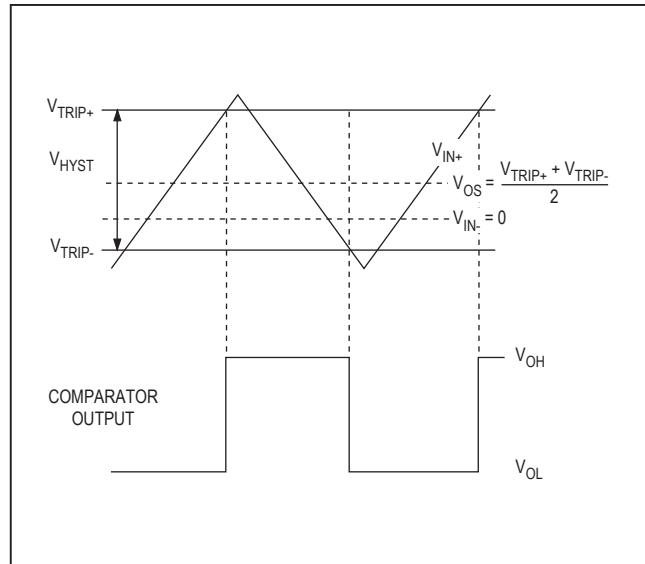

Figure 1. Input and Output Waveform, Noninverting Input Varied
**Note 4:**  $V_{OS}$  is defined as the center of the input-referred hysteresis zone. See Figure 1.
**Note 5:** The input-referred trip points are the extremities of the differential input voltage required to make the comparator output change state. The difference between the upper and lower trip points is equal to the width of the input-referred hysteresis zone. See Figure 1.
The hysteresis in a comparator creates two trip points: one for the rising input voltage and one for the falling input voltage (Figure 1). The difference between the trip points is the hysteresis. The average of the trip points is the offset voltage. When the comparator's input voltages are equal, the hysteresis effectively causes one comparator input voltage to move quickly past the other, thus taking the input out of the region where oscillation occurs. Standard comparators require hysteresis to be added with external resistors. The devices' fixed internal hysteresis eliminates these resistors. To increase hysteresis and noise margin even more, add positive feedback with two resistors as a voltage divider from the output to the noninverting input.
Figure 1 illustrates the case where IN- is fixed and IN+ is varied. If the inputs were reversed, the figure would look the same, except the output would be inverted.